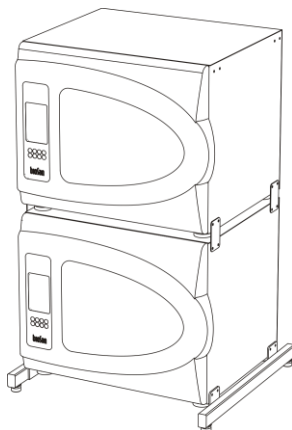

Figure 5. Stacking three units, middle level
- 5.5.2. Middle unit (figure 5):